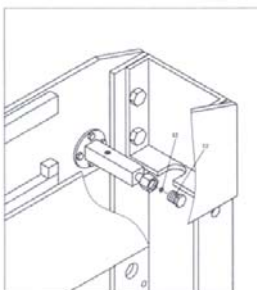

Figure 3
- Remove Gauge Plug (22), insert Nylon Ring (42) into Gauge Fitting (43) and thread in Pressure Gauge (41) until tight. Ensure entire assembly is tight or it may leak. (figure 3, 4)